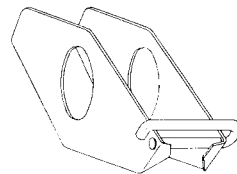

Fig. 1—B Sheave Guard
2.01 The B sheave guard consists of two flat metal side pieces. Each side piece has a hole with a diameter that will pass freely over the spindle bar. An open loop of steel rod connects the two side pieces near one end as shown in Fig. 1. The winch line is passed through and is contained within the open loop, causing the guard to follow any changes in the angle of the winch line during work operations. The loop will effectively block hands or clothing from being drawn into contact with the sheave.